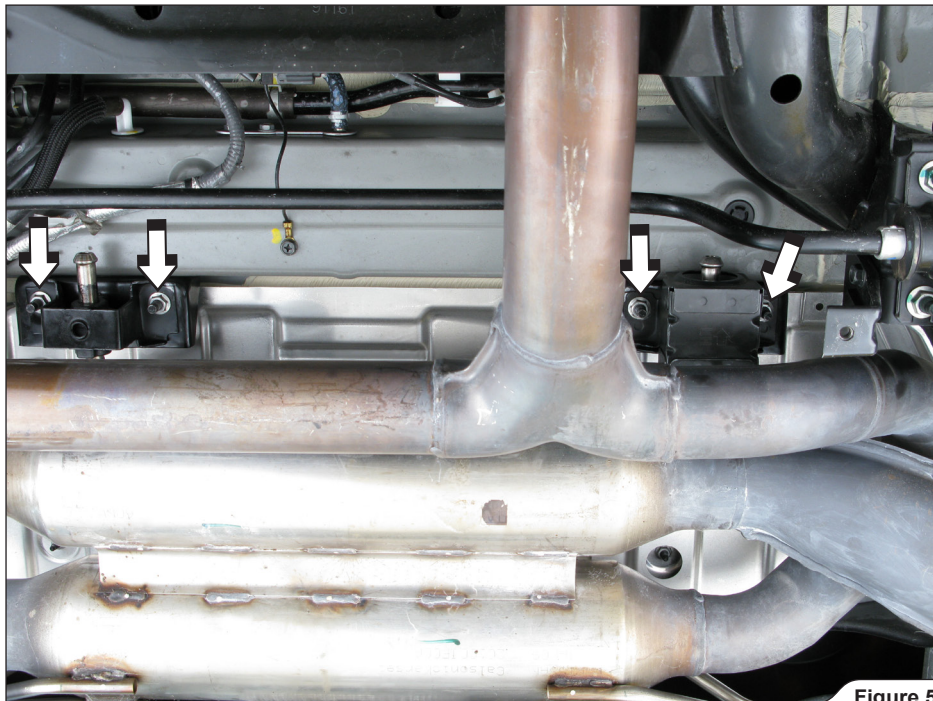

Figure 5
4. **For Slip-On and Evolution:** unscrew the marked nuts (**Figure 5, 6**).